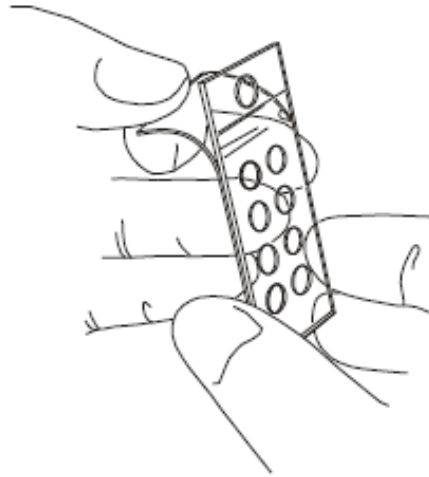
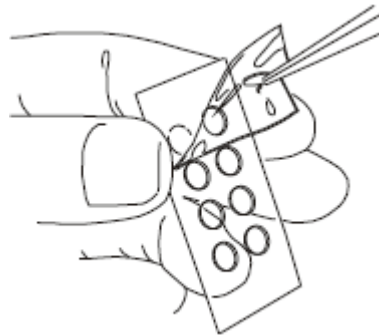

Figure 9
Figure 10
9. To mount coverslips on glass microscope slides, first remove the silicone backing and gasket by holding the sides of the coverslip and gently peeling away the silicone backing as shown in Figure 9, then the silicone gasket as shown in Figure 10.